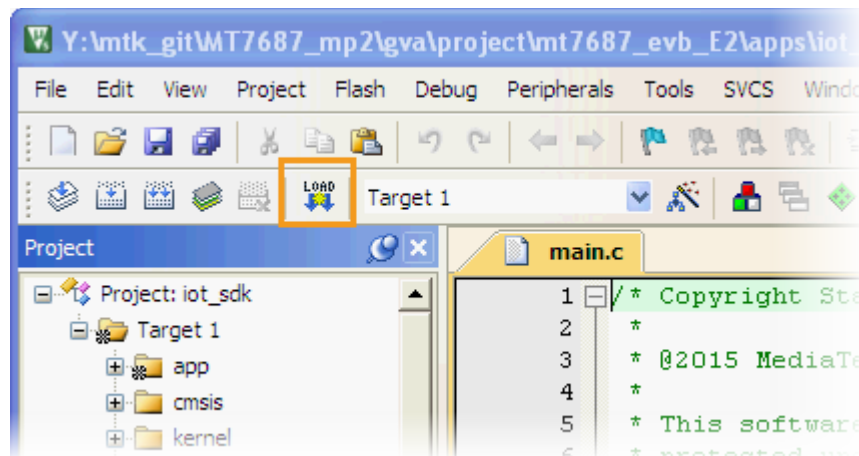

Figure 53. Download the project binary
- 9) Reset the board and then click **LOAD** to download the project binary to target (see Figure 53).